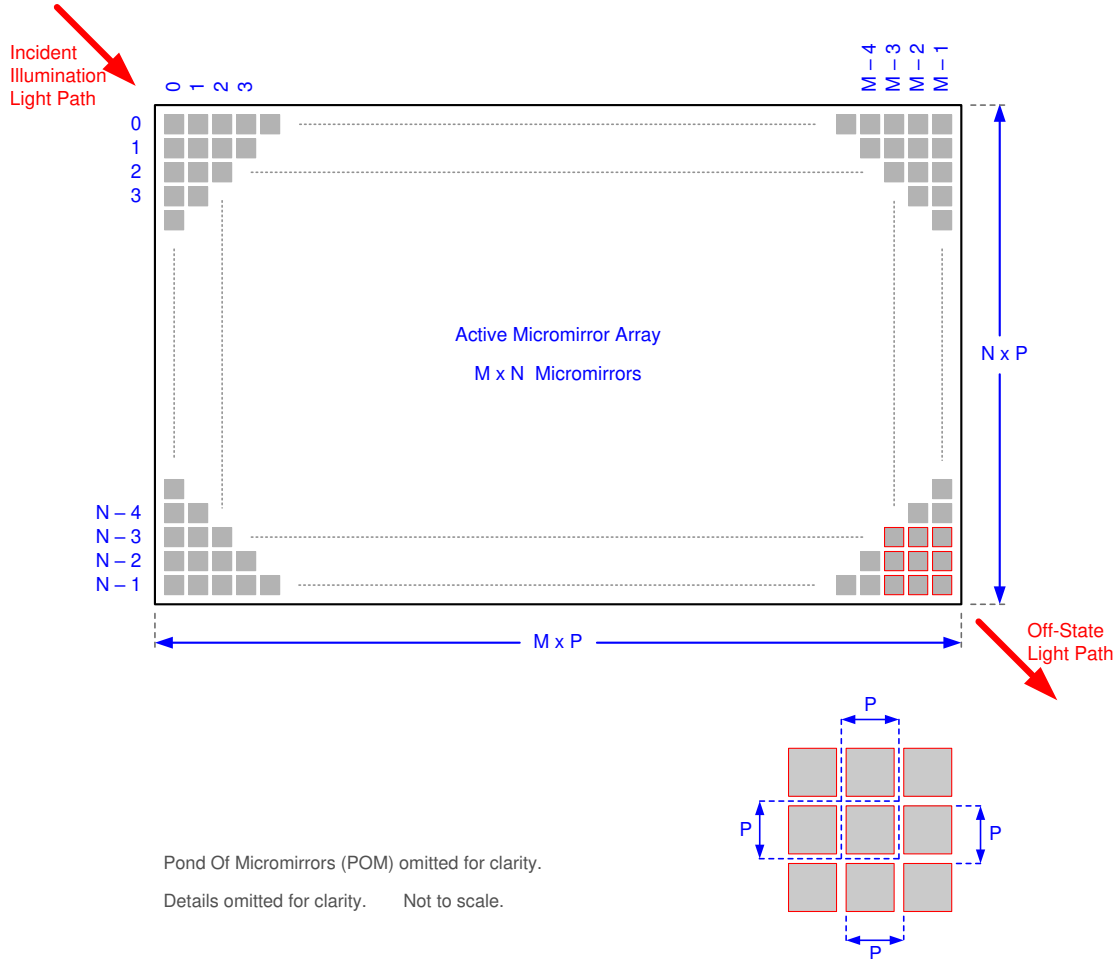

图 6-15. Micromirror Array Physical Characteristics
(1) See Figure 6-15.
(2) The structure and qualities of the border around the active array includes a band of partially functional micromirrors called the POM. These micromirrors are structurally and/or electrically prevented from tilting toward the bright or ON state, but still require an electrical bias to tilt toward OFF.